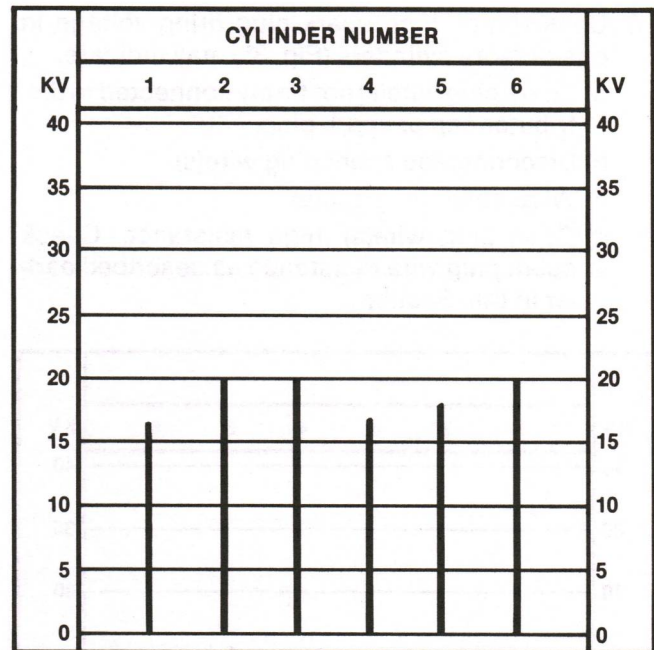

Figure 33. Engine Analyzer Displays—Average Plug Firing Voltage Greater Than 15KV
4. If firing voltage variation or spark plug is OK, but average firing voltage is greater than 15 KV, there are problems affecting all cylinders (Fig. 33). Make the following checks and inspections: